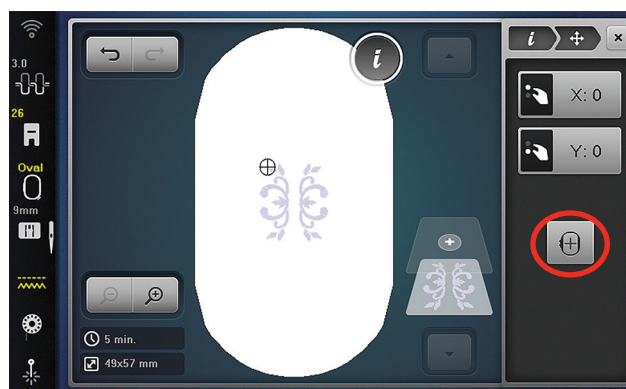

Fig. 14
11.  From the Information Menu, tap the Move icon, then select Center Design (Fig. 14).